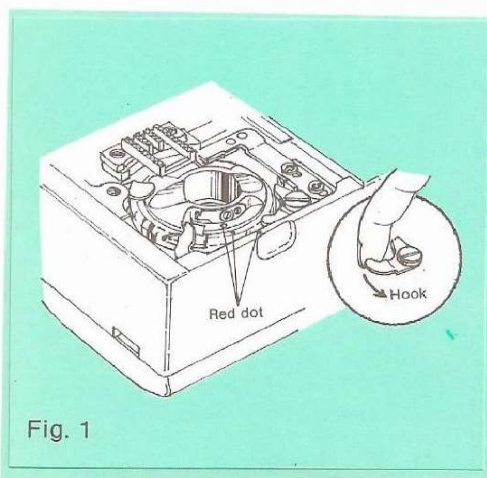

Fig. 1
4. Turning hand wheel slowly toward you, align three red dots in line. Move hook toward you with your finger. Fig. 1.